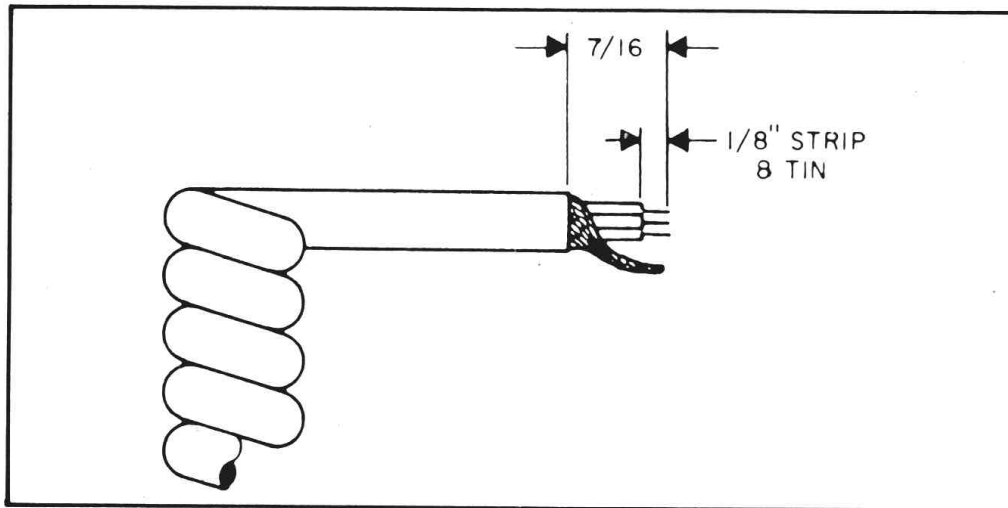

Fig. 1. Microphone cable preparation.
1. Cut leads so that they extend  $7/16$ " beyond the plastic insulating jacket of the microphone cable. (See Fig. 1.)